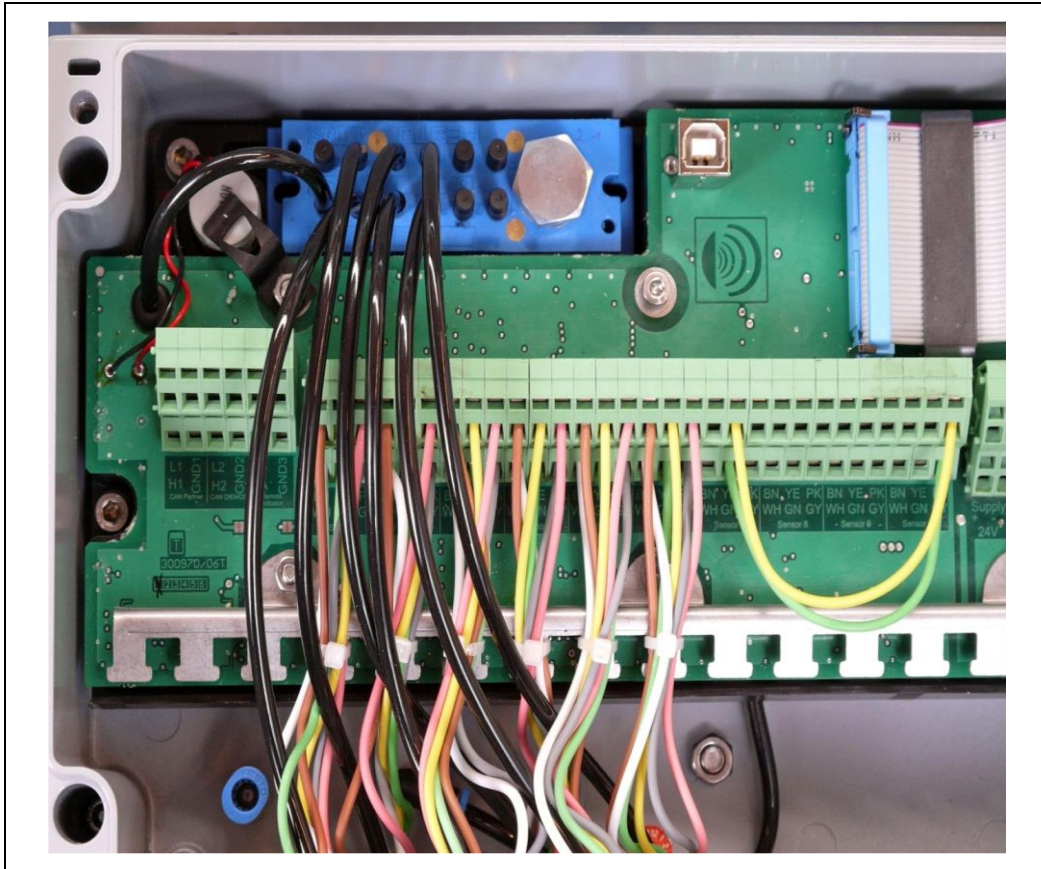

Fig.: 9 : Assembly and installation complete (example with 6 hybrid hoses)
- ▶ The pneumatic hose [③] must not be fixed to the cable tie retaining plate or similar using cable ties. (Fig. 9)
- ▶ The pneumatic hoses must be installed correctly and in accordance with the manufacturer's instructions as shown in Fig. 9!